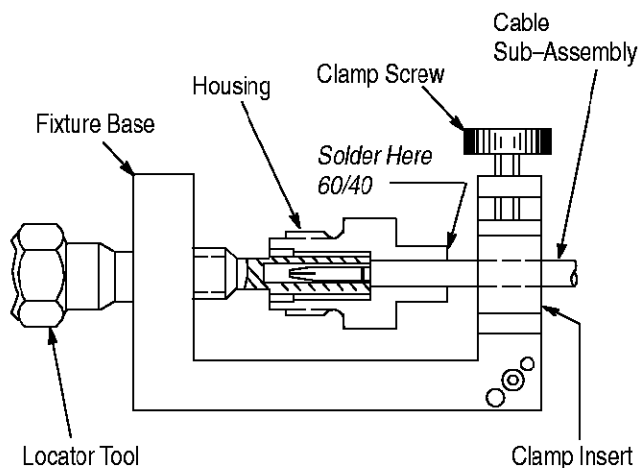

Figure 5
### 3.3. Soldering of Cable Sub-Assembly to Housing (Figure 5)
2. Place loose assembly in fixture base as shown in Figure 5.